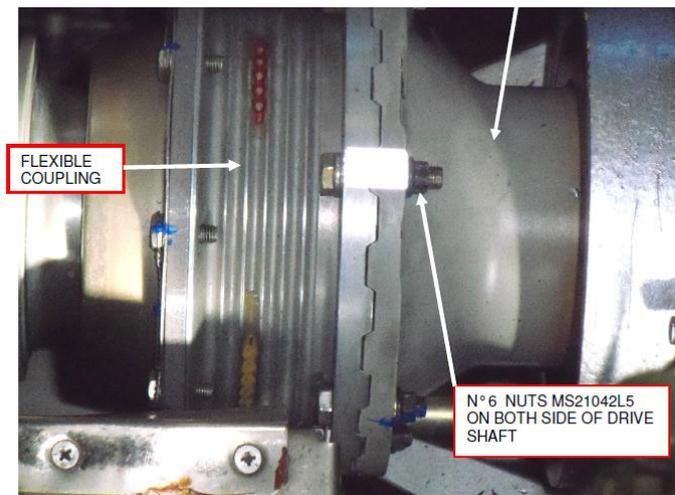
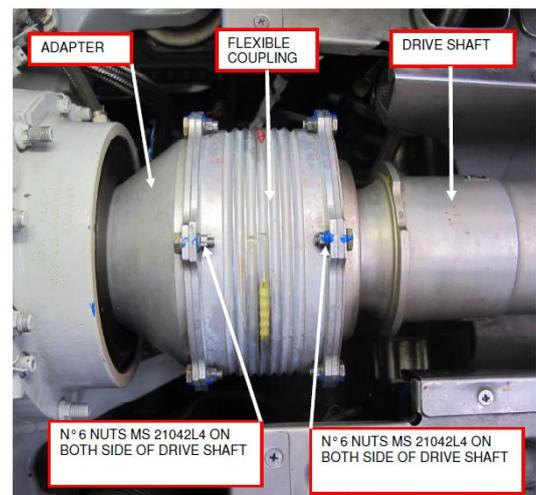

Fig. 1
Fig. 2
3. Using a source light and a mirror, inspect the nuts P/N MS21042L5 connecting the flexible coupling with the adapter installed on the engine-to-transmission drive shaft (refer to Fig. 1) or inspect the nuts P/N MS21042L4 connecting the flexible coupling with the adapter and nuts P/N MS21042L4 connecting the drive shaft with the flexible coupling (refer to Fig. 2). The configuration depends on the helicopter model and s/n.